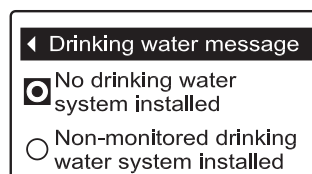

FIG. 107
4. Press the SELECT (○) button to display the Drinking water message menu (See Figure 107).